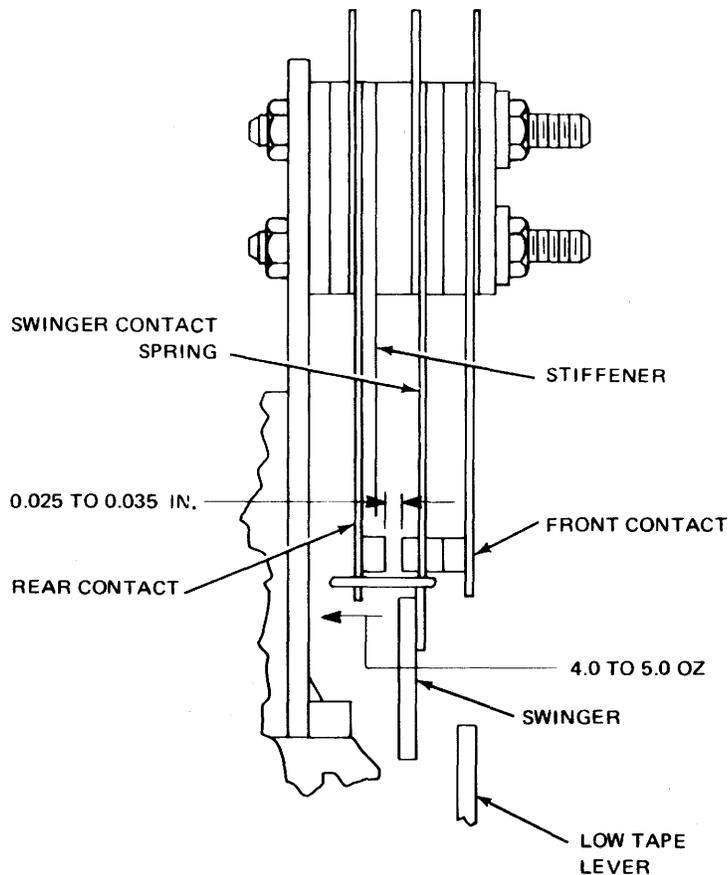

Figure 6-18. Low Tape Contacts (View from Motor Side).
6-25. Punch Base Component Adjustments. The punch base components discussed in this paragraph are: low tape contacts, low tape contact bracket, tape reel brake spring, and low tape lever spring. To adjust the punch base components, perform turnoff procedure (paragraph 6-24, step 2), see figures 6-18, 6-19, 6-20 and 6-21, and proceed as follows:
4. Adjust low tape contacts (see figure 6-18).